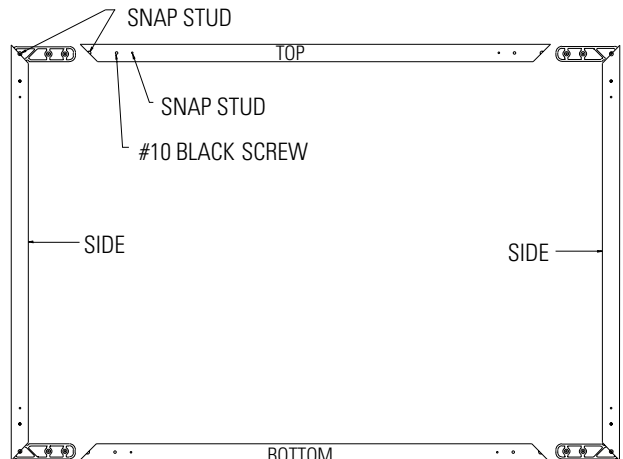

FIGURE 1. REAR VIEW
2. Take care to observe the color code on the parts. Assemble the top and bottom frame members on the left and right sides using the #10 black screws and snap studs. See Figure 1.